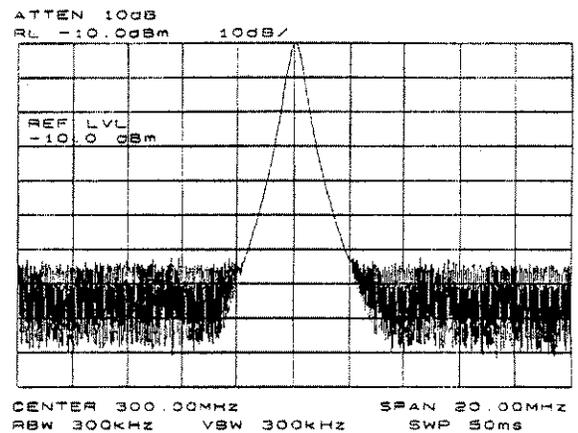

Figure 1-7. Frequency, Span, and Amplitude Set for Calibration
2. Set the center frequency to 300 MHz, the span to 20 MHz, and the reference level to -10 dBm. See Figure 1-7.